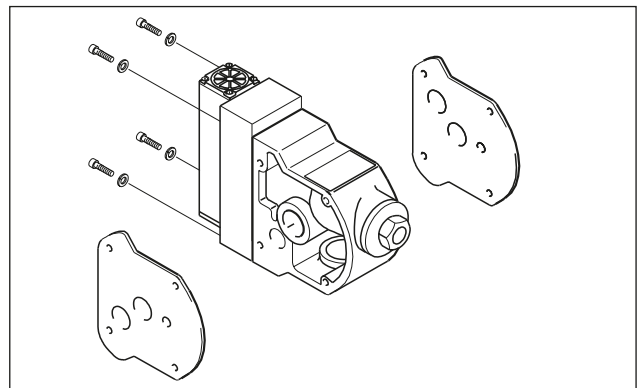

Fig. 20: Assembly of external control valve
- Loosen four fastening screws on the control block. Now you can pull out the complete control valve with pilot control. This is also possible without disassembling the pump (Fig. 20).